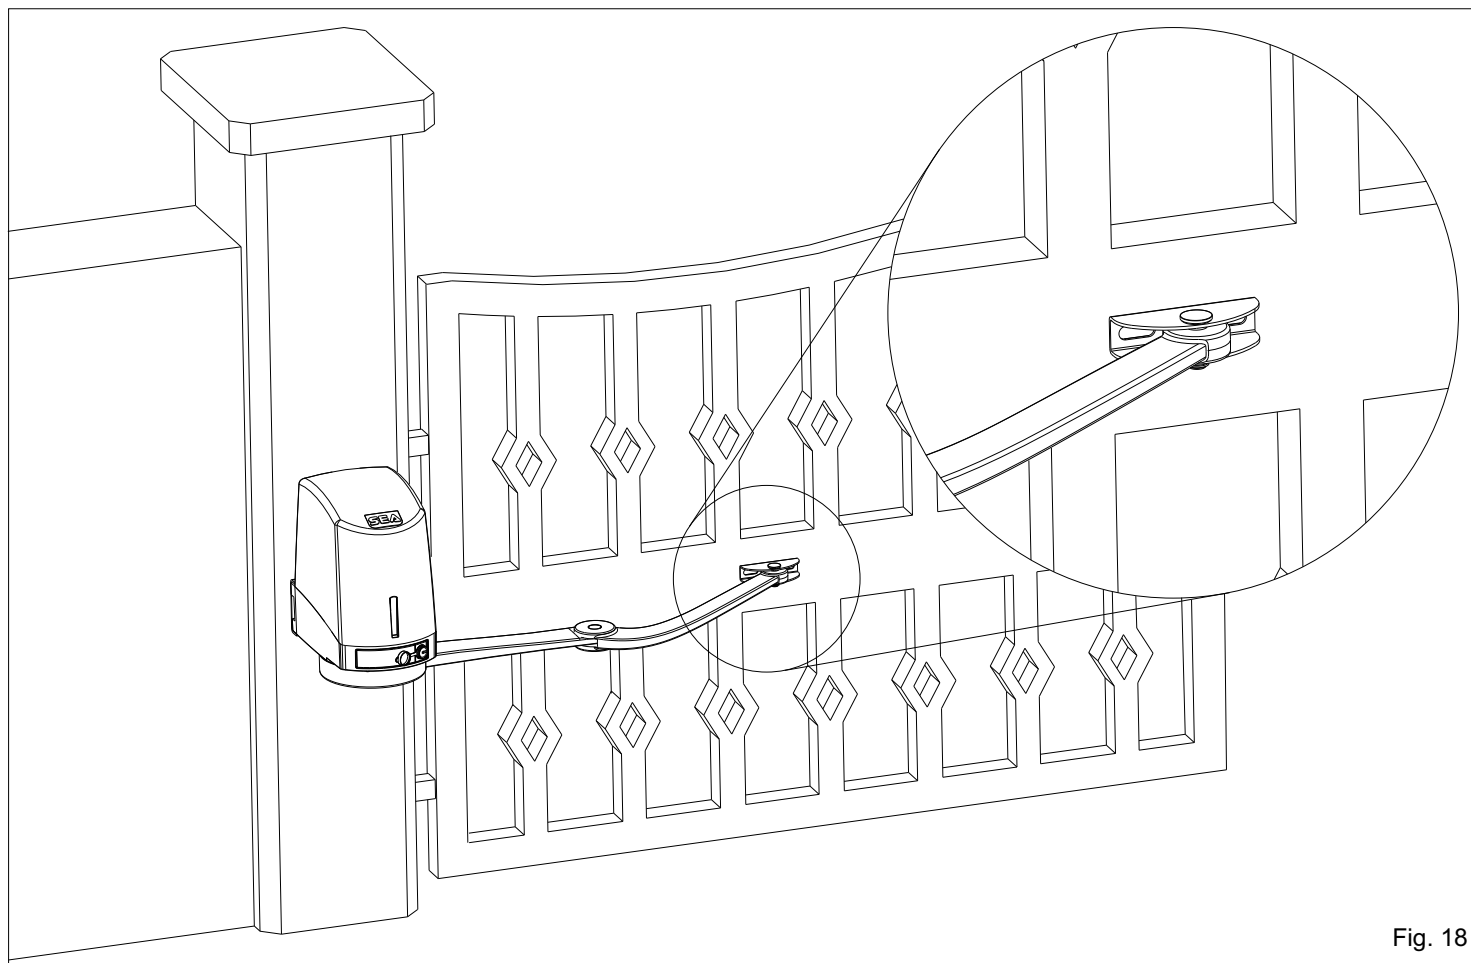

Fig. 18
- Extend the articulated arm (Fig. 10), lean the adjustable front bracket on the gate and make two marks on the center of the two holes (Fig. 18) respecting the measures in Fig. 10.